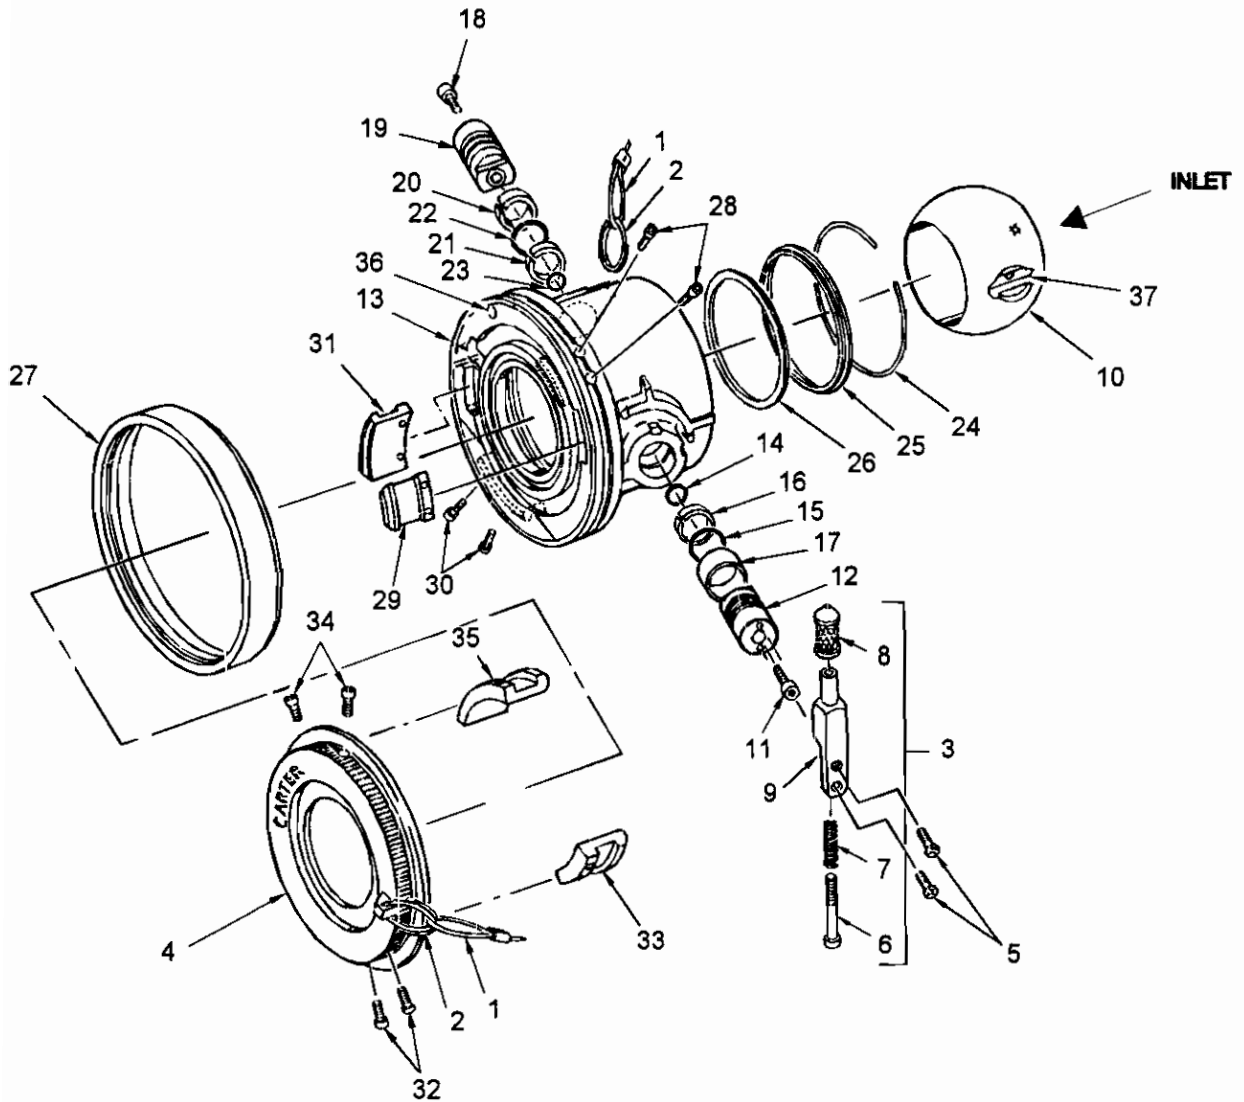

Figure 5-1. Three Inch Valved Unisex Coupling
5.2 REPAIR THREE-INCH VALVED UNISEX COUPLING. (Refer to figure 5-1)